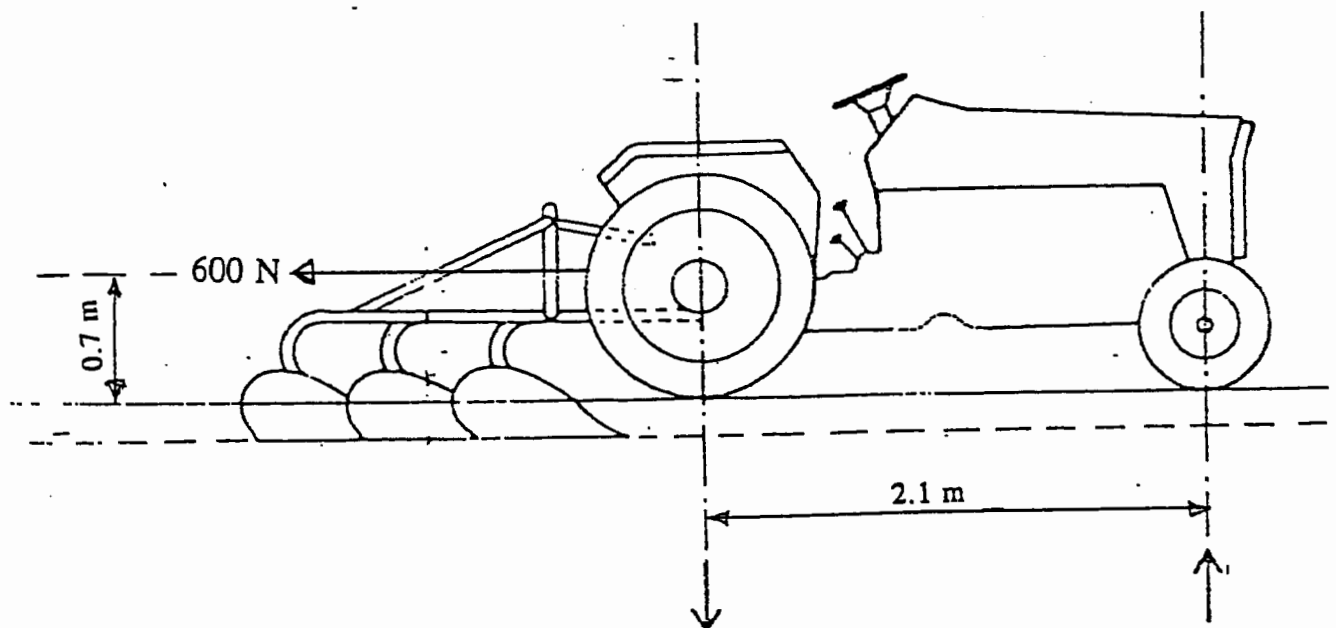

Figure 2. Weight transfer on a tractor due to drawbar pull
b) Figure 2 shows a tractor and an implement in operation. Calculate the weight transfer on to the rear wheels due to a drawbar pull of 600 N. [10 marks]